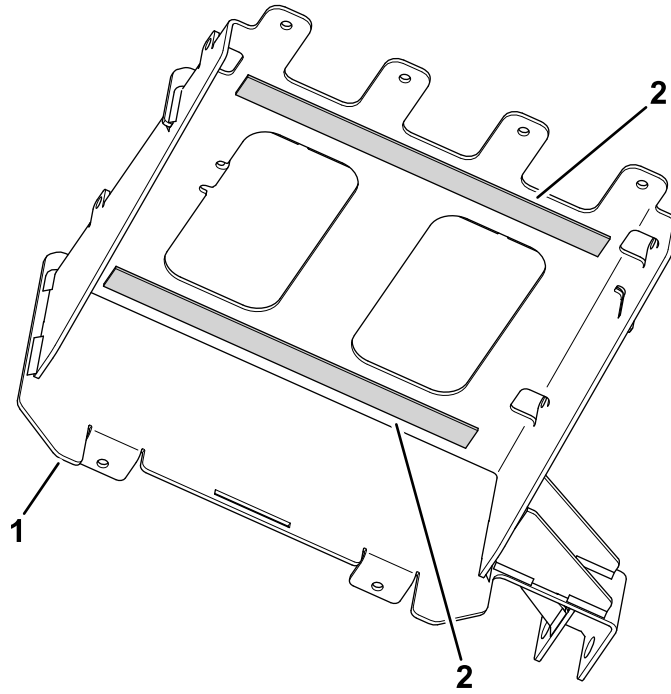

Figure 19
3. Install 2 foam strips (37 cm or 14.5 inches) to the lower mount plate (Figure 19).